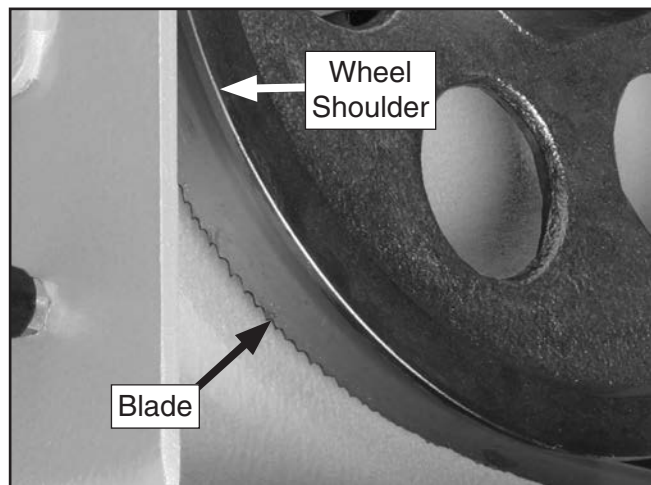

Figure 37. Blade installed on wheel.
12. Apply a light amount of tension to hold blade in place. Work your way around blade to adjust position so back of blade is against shoulder of wheels, as shown in **Figure 37**.